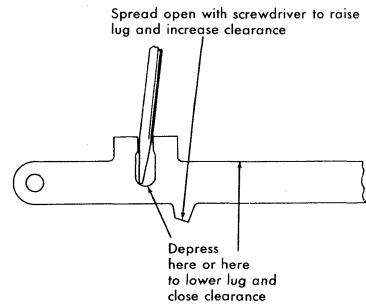

Figure 6. Individual Keylever Adjustment
3. Form individual keylevers which are not within the specifications of the previous adjustment. The keylevers are designed to respond to the forming operation (Figure 6).